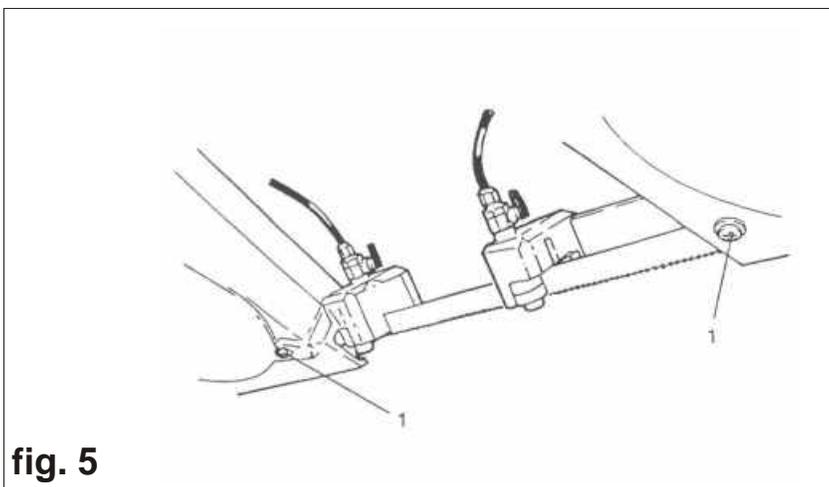

fig. 5
- Remove the screws (1 - fig. 5).
- Close the guard (1 - fig. 6) and fasten it with the two screws (1 - fig. 5).